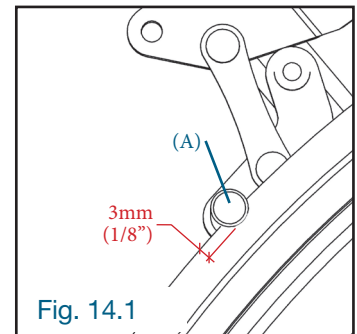

Fig. 14.1
IMPORTANT : Always ensure that the rod (A) of the lateral wheel lock (B) compresses the tire by approximately 3 mm (1/8”) at all times. (Fig. 14.1)